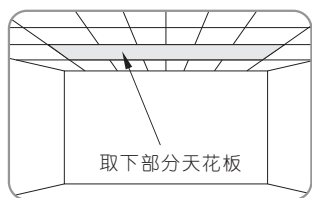
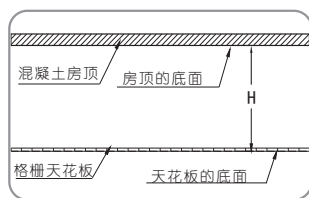

图 1
图 2
Figure 1: External dimensions of the machine. The figure consists of three views: a front view (top left), a side view (bottom left), and a perspective view (right). The front view shows a rectangular machine with a width of 514 mm and a height of 15.2 mm. The side view shows a height of 15.3 mm. The perspective view shows the machine's internal structure, including a central vertical column and a horizontal beam. Dimensions are given in mm.
1. 按照用户的投影机参数来选定安装升降架的位置，根据升降架所需安装空间，取下部分天花板(图1)，准确测量混凝土房顶的底面到天花板的底面高度距离 H (图2)